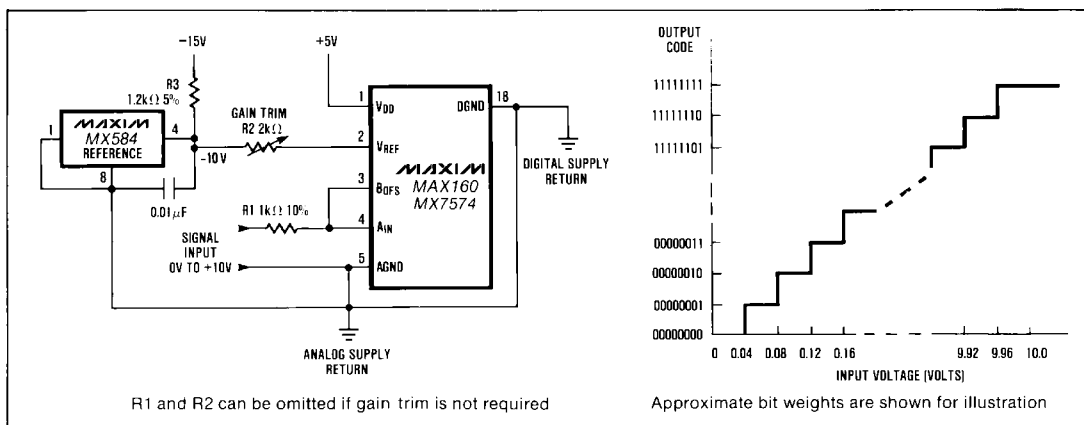
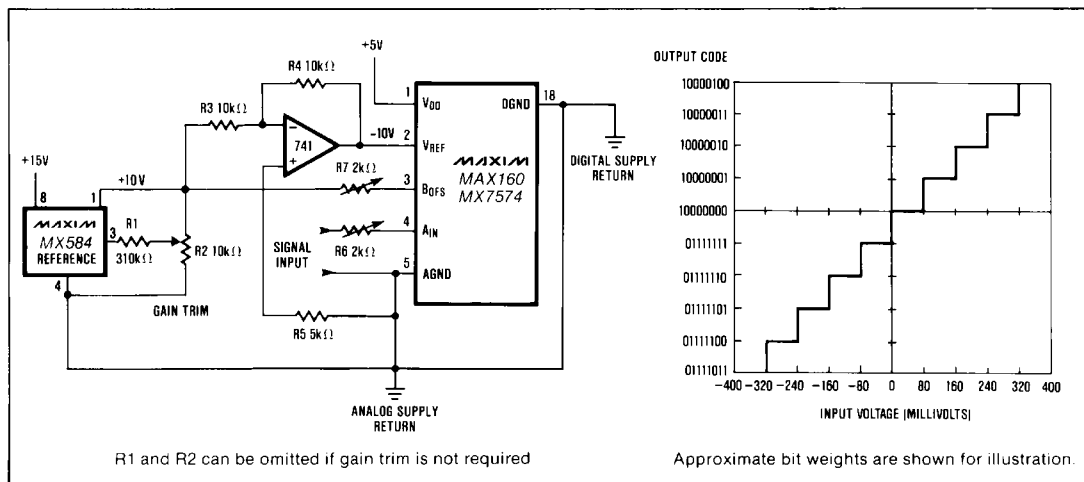
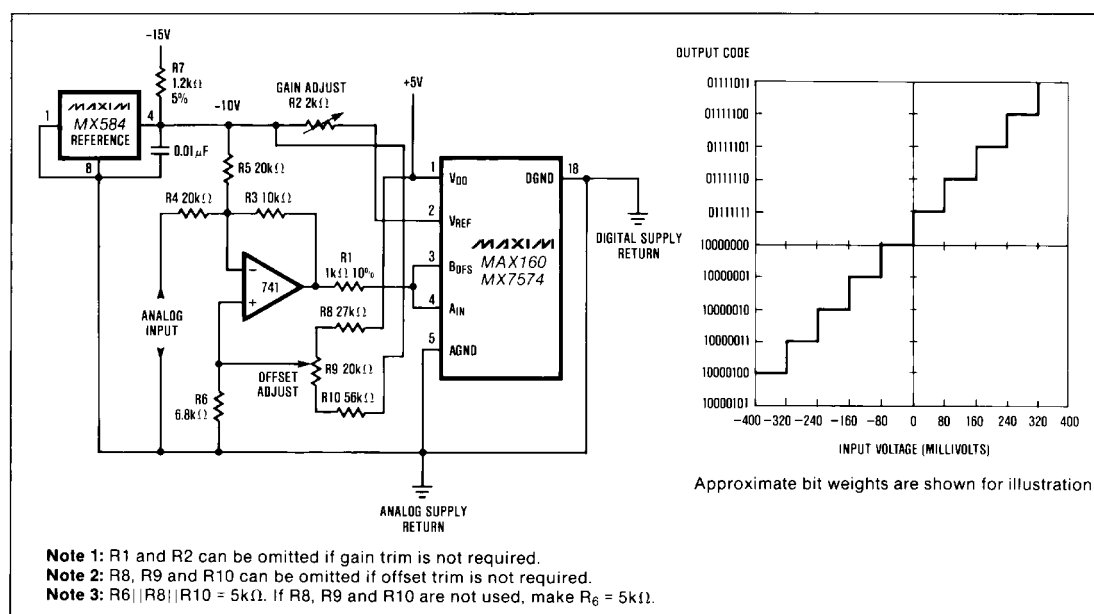

Figure 10. Unipolar (0V to +10V) Operation and Nominal Transfer Characteristic (Output Code is Straight Binary)
Figure 11. Bipolar (-10V to +10V) Operation and Nominal Transfer Characteristic Around Major Carry (Output Code is Offset Binary)
Figure 12. Bipolar (-10V to +10V) Operation and Nominal Transfer Characteristic Around Major Carry (Output Code is Complimentary Offset Binary)
Offset error in the transfer function can be trimmed by offsetting the buffer that drives the A_{IN} input. This can be achieved either by summing a cancellation current into the amplifier's summing junction, or by tapping a voltage divider which sits between V_{DD} and V_{REF} and applying the tap voltage to the amplifier's non-inverting input. An example of the latter method can be seen in Figure 12.
Figures 10 shows the analog circuit connections and nominal transfer characteristic for unipolar operation. Calibration is as follows:
If offset trimming is required, it must be done in the signal conditioning circuitry used to drive the A_{IN} input in Figure 10. See also the offset trim example shown in Figure 12.
Figure 11 illustrates the analog circuitry and transfer function for bipolar operation. The output coding is offset binary. Offset correction can be performed at the buffer amplifier used to drive the signal input terminals of the MAX160/MX7574. See Figure 12 for an example of how offset trimming can be performed. Calibration is as follows:
Figure 12 shows the analog connections for offset binary operation. The typical transfer characteristic is also shown. In this bipolar mode, the input signal (-10 to +10V) is conditioned and the A/D basically operates in unipolar mode (0 to +10V). Calibration is as follows (offset adjusted before gain):
1. Apply 0V to the analog input shown in Figure 12.
1. Apply -9.922V across the analog input terminals shown in Figure 12.